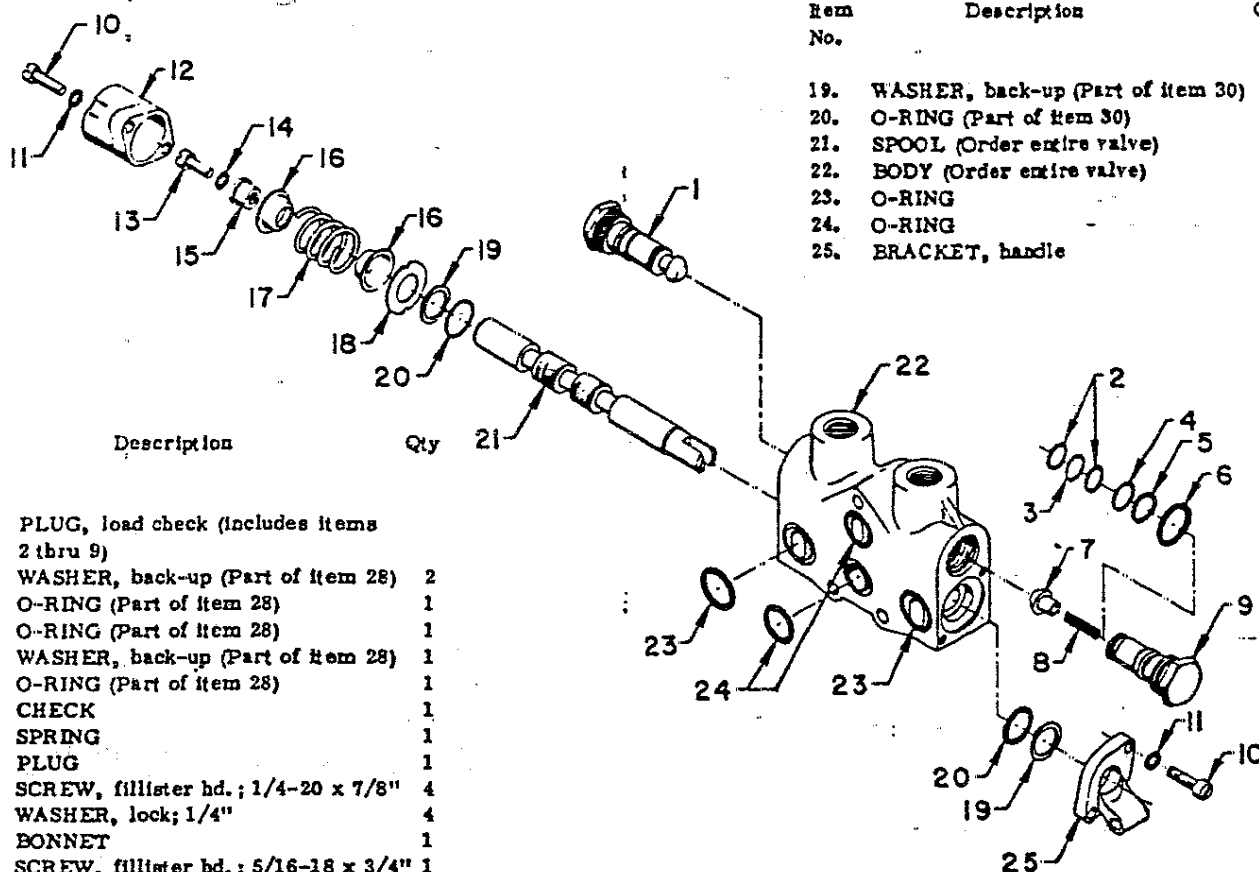

Figure F-9. Control Valve Service.
3. Bend a coat hanger or other stiff wire as shown in Figure F-9. Insert the tips of the hanger in through the shaft opening in the bottom housing until the tips of the hanger extend above the stack of discs. Spread the tips and pull the stack of discs down into the bottom housing. This will keep the springs and stationary discs aligned on the torque pins.